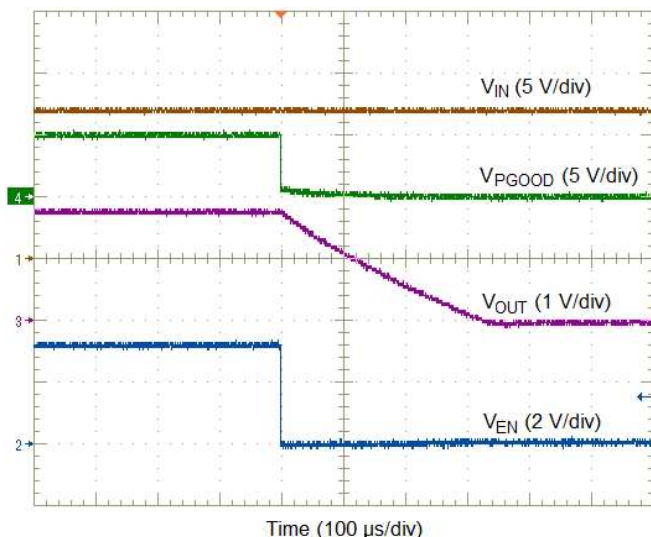
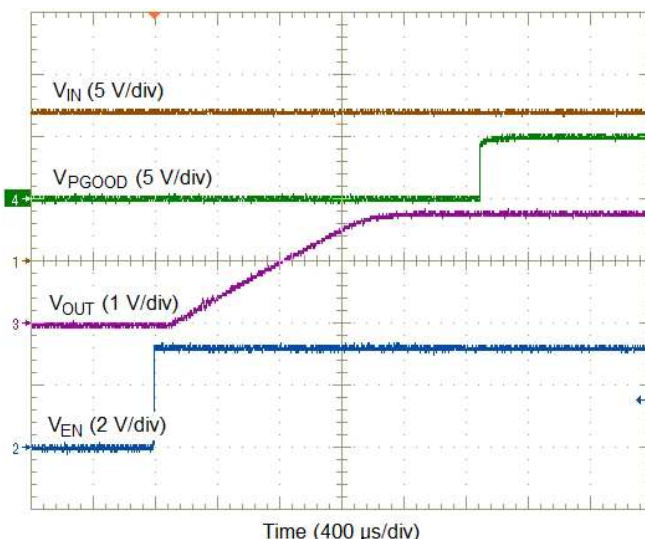

图 13. Enable Turnoff
图 14. Enable Turnon
If an application requires controlling the EN pin, either drive it directly with a logic input or use an open drain/collector device to interface with the pin. Applying a low voltage to the enable control (EN) pin disables the output of the supply, shown in 图 13. When the EN pin voltage exceeds the threshold voltage, the supply executes a soft-start power-up sequence, as shown in 图 14.